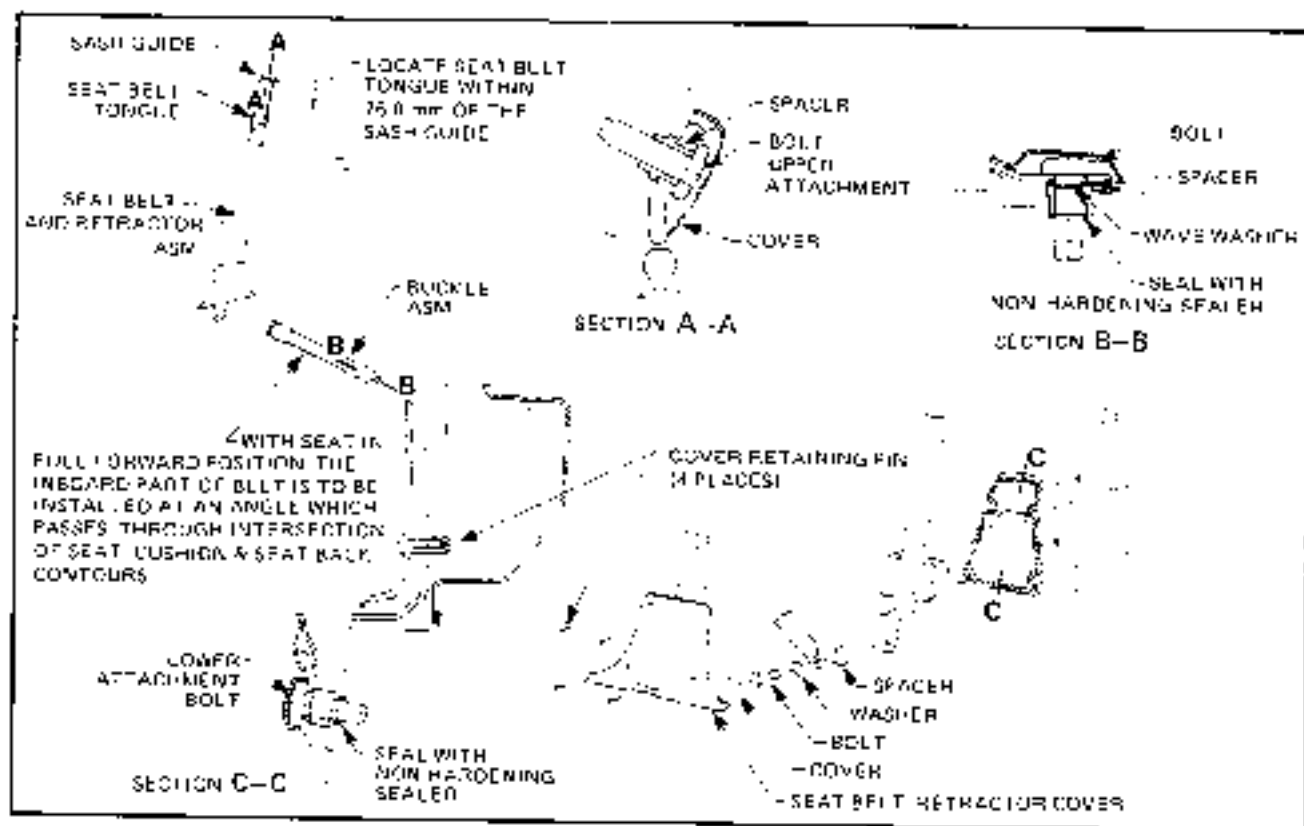

Figure 1A-44
- Remove cover and bolt securing seat belt buckle assembly to transmission tunnel (refer Section R-8, Fig. 1A-14) then remove buckle assembly.